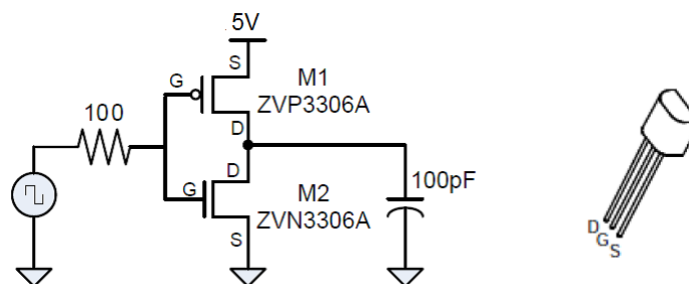

Figure 4. CMOS logic inverter circuit.
Both of the previous circuits only have a single transistor which actively drives the output when the transistor is on. When the transistor is off, a pull-up (NMOS) or pull-down (PMOS) resistor causes the output to assume a high or low state, respectively. The relatively high resistance results in a much slower output transition than the low on-resistance of the transistor provides. To actively drive the output in both directions, we combine the NMOS and PMOS transistors to create a complementary MOS (or CMOS) inverter, as shown in Fig. 4.
10. Construct the CMOS inverter shown in Fig. 4. Repeat the measurements as were done in step 4-6. Summarize your observation.